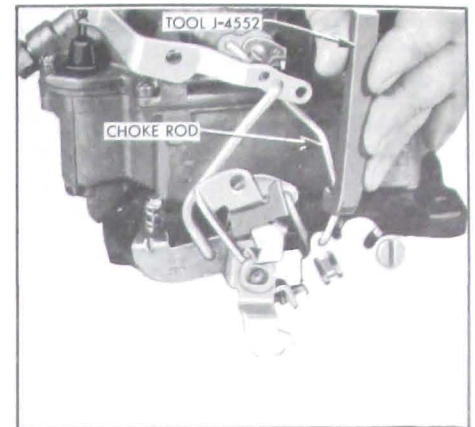

Figure 3-53—Adjusting Fast Idle Cam
2. If choke valve clearance is not correct, bend choke rod as required to obtain this clearance using Tool J-4552. See Figure 3-53.